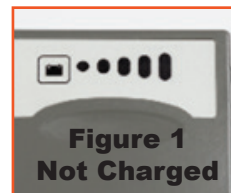

Figure 1
- Obtain two charged batteries from patient's accessory bag or battery charger. The charge level of each gray battery can be assessed by pressing the battery button on the battery. (Figures 1 and 2)